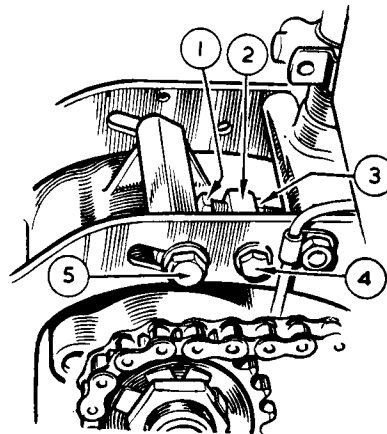

FIG. 38
The arrangement used to adjust the front chain on this model is shown in fig. 38. Remove the inspection cap on the front chaincase. Slacken the nut (5) on the right side engine plate. Slacken the nut (3). Screw in the bolt (1) into the crosshead to take up slack in the chain—press hard on the bottom run of the rear chain to tighten the front one, the correct chain whip is $\frac{1}{8}$ ". Check in several positions—adjust for tightest point. When the correct adjustment is made tighten nuts (3 and 5). Should the front chain be tight—screw the bolt (1) out of the crosshead. Check rear chain adjustment after dealing with the front one.